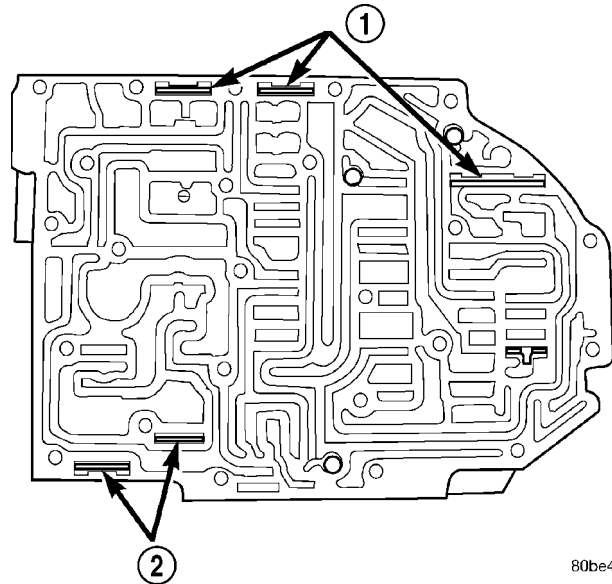

Fig. 335 Valve Retainer Location
(4) Verify that all retainers are installed as shown in (Fig. 335). Retainers should be flush or below valve body surface.